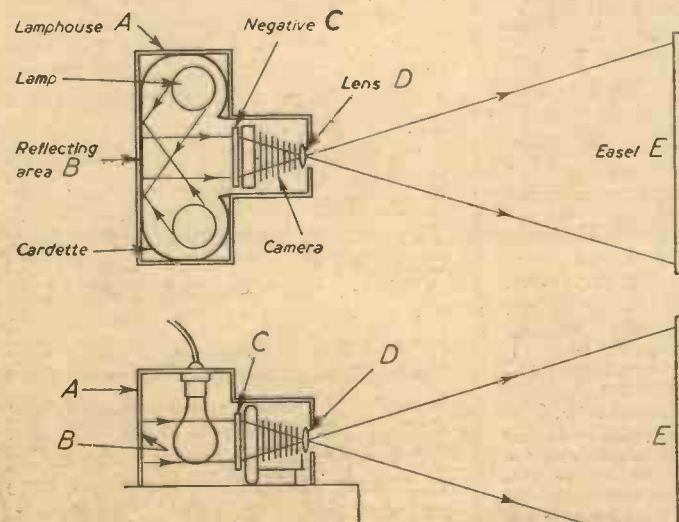

Fig. 1.—Plan and side elevations, showing general principle of the reflecting enlarger.
The general idea of a reflecting enlarger is shown in Fig. 1. The lamp-house (A) contains two equal powered bulbs which throw their light on to the plain white surface (B). In front of this and shielded from direct rays from the lamps is the negative (C), which is thus illuminated solely by reflected light from the surface (B). Beyond the negative comes the lens (D) and further out still the usual easel (E).